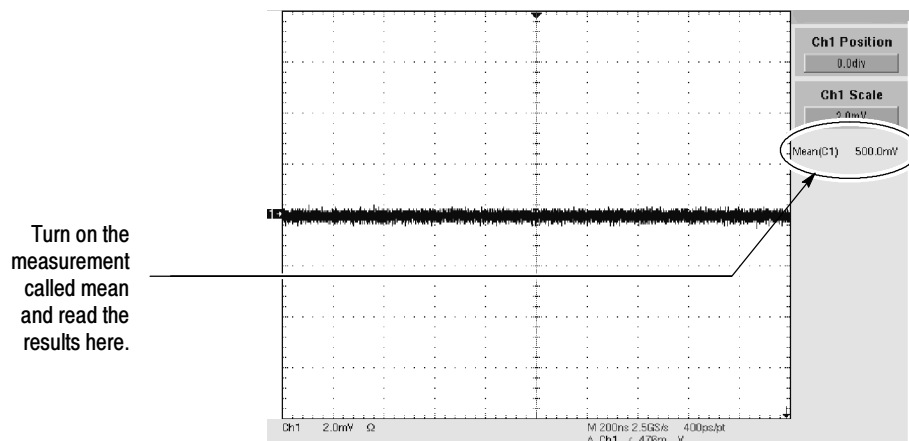

Figure 4-4: Measurement of offset accuracy
e. Measure the test signal: Touch **Close**. Read the measurement results at the **Mean** measurement readout. See Figure 4-4.